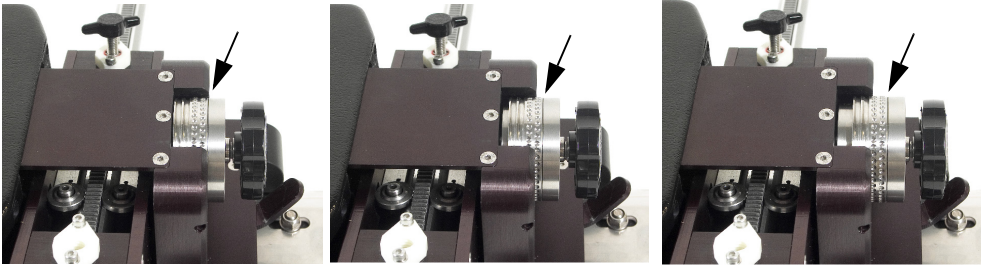

Figure 3-2 The three dial positions: 0.5 mm increment, 1 mm increment, and free running (left to right, respectively)
- If the dial is completely pulled out, the rigid Y-axis disengages and runs freely (see Figure 3-2 on page 29).